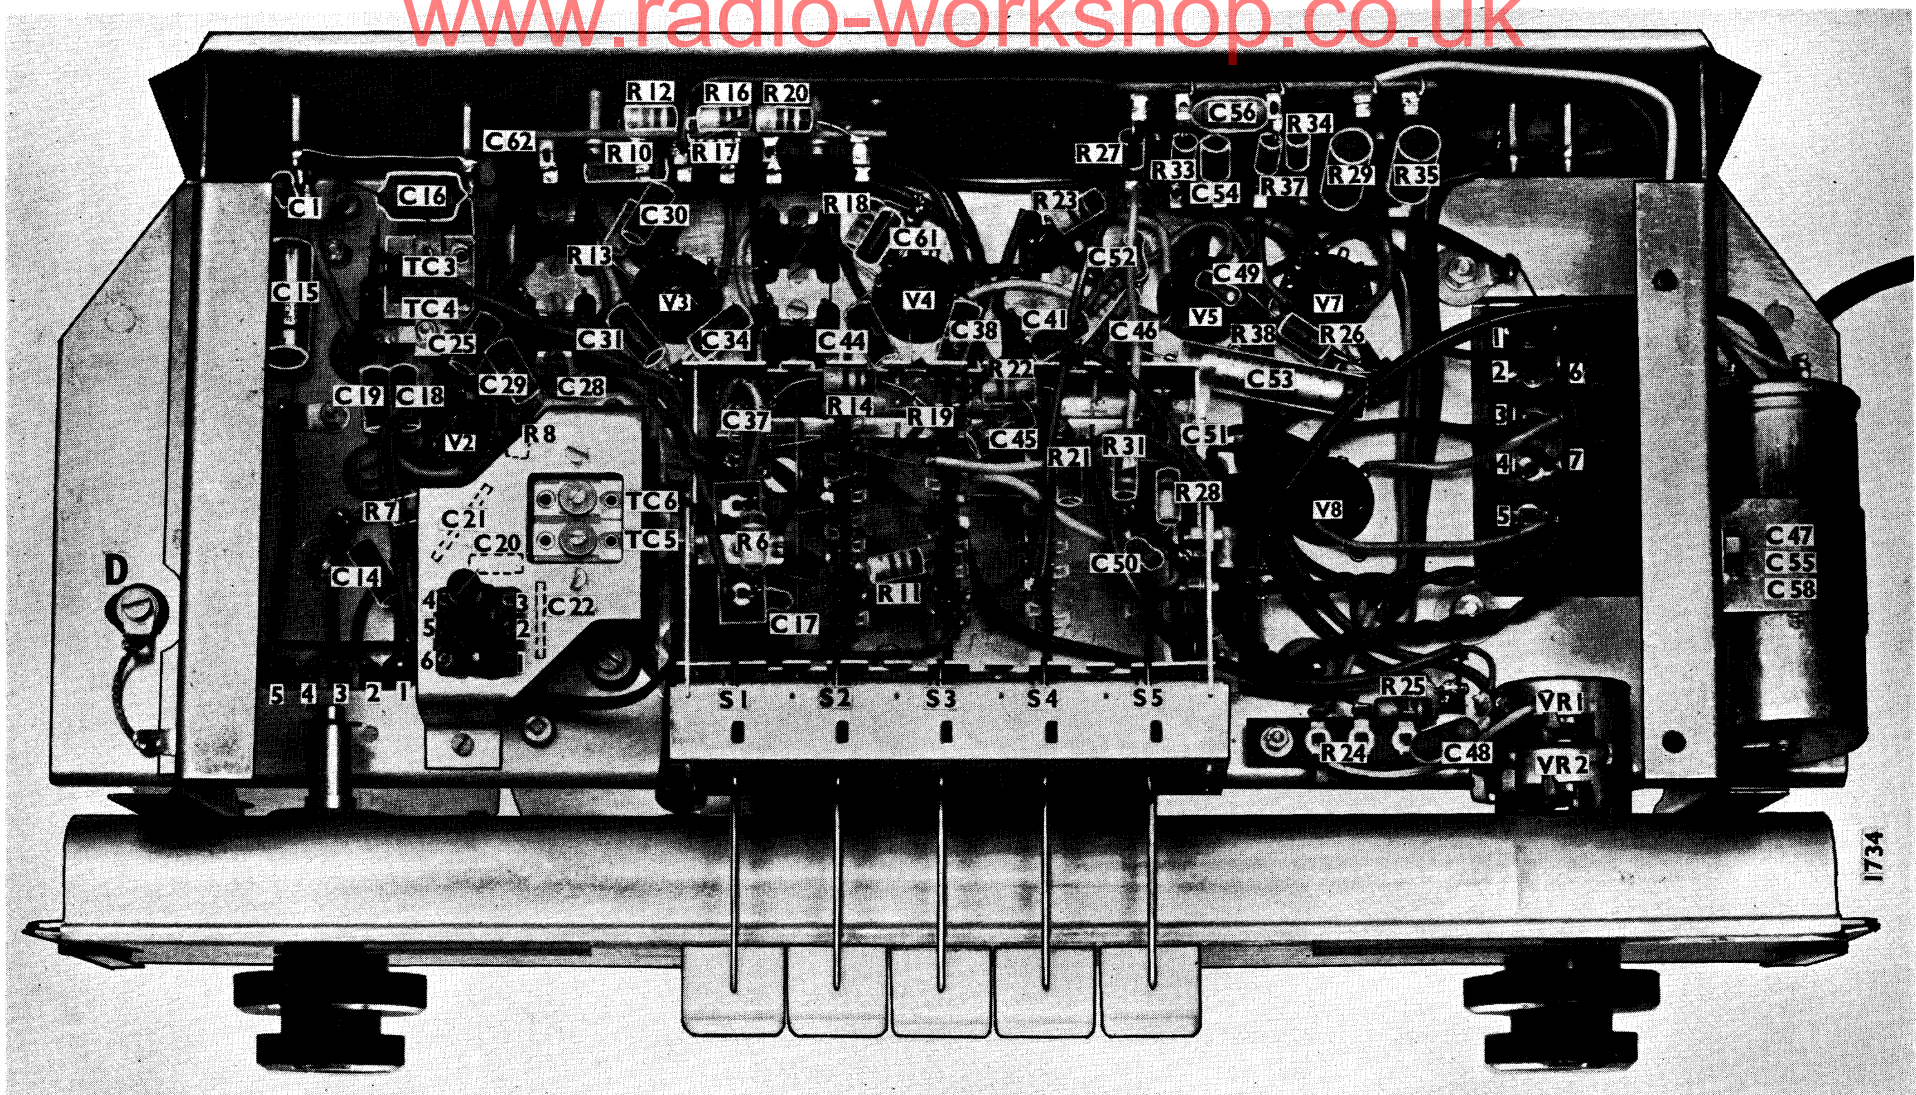
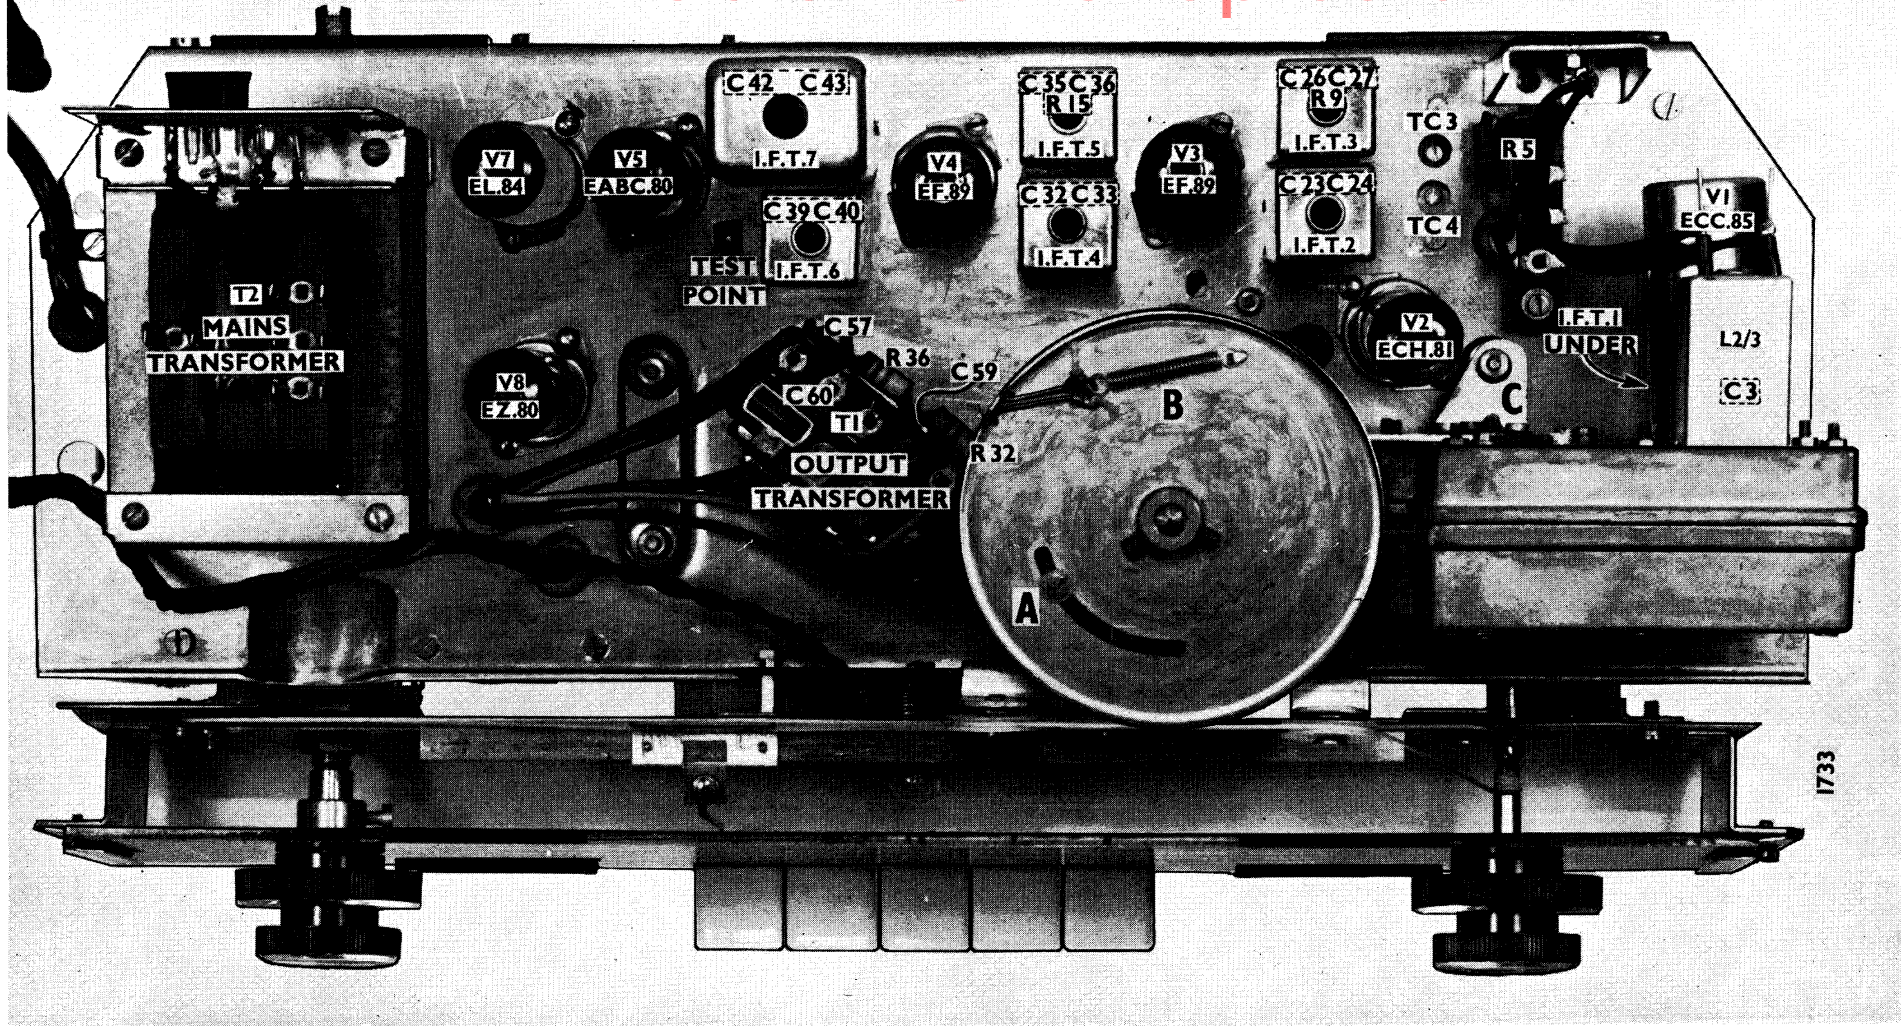

Fig. 2—Under View of Chassis. See fig. 1 for number references
Fig.3—Top View of Chassis
- (a) Set generator and auxiliary pointer to 88 mc/s. Slacken the locking screw on the pivoted adjuster (fig. 3) and rotate arm for maximum D.C. output. This operation adjusts the cores of L4 (R.F.) and L5/L6 (Osc.). Tighten locking screw.
NOTE.—No reference has so far been made to the trimmers TC1 and TC2 (fig. 2). TC1, the oscillator bridge balancing trimmer, has been adjusted in production for minimum transmission of oscillator voltage to the V.H.F. aerial sockets.
- (1) Unsolder the five connections to the box (see below).
- (2) Set the tuning capacitor to minimum and unhook the spring (B, fig. 3) from the drive drum.
- (3) Remove the cord drive from the drive drum.
- (4) Release and remove the screw and washer (A, fig. 3) from the pivoted adjuster.
- (5) Unbolt and remove the drive drum.
- (6) Remove the cord from around the brass boss.
- (7) Remove the three bolts holding the box to the L-shaped bracket (C, fig. 3) and remove the bolt (D, fig. 2) from beneath the chassis.
#### CONNECTIONS TO V.H.F. BOX (Fig. 2)
5. Unscrew the spade tags connected to pin 1 and pin 2 of the output transformer (see fig. 3).
3. Unhook the spring (B, fig. 3) from the drive drum.
5. Release and remove the screw and washer (A, fig. 3) from the pivoted adjuster.